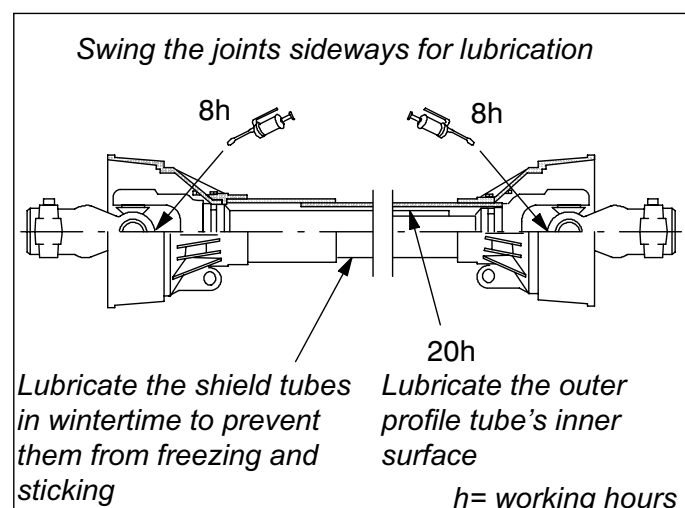

Fig. 16. Lubrication points and intervals for the PTO shaft
- Lubricate the PTO shaft prior to operation and regularly, as shown in Fig. 16.